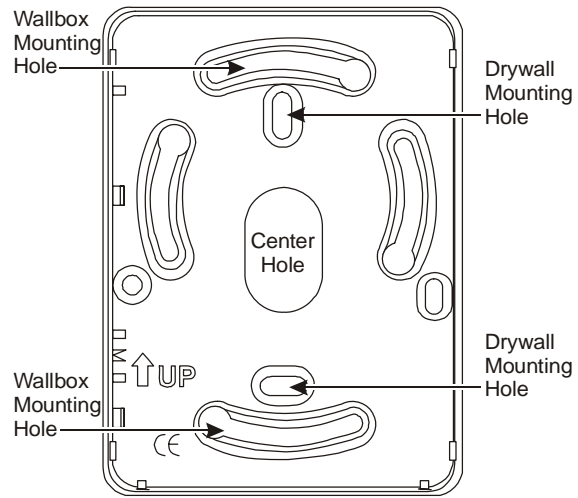
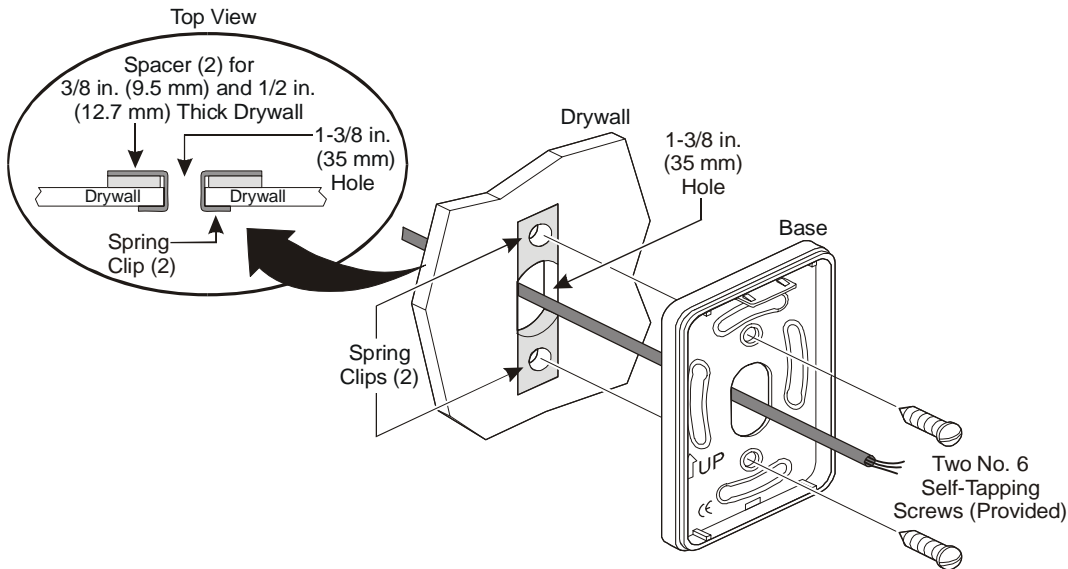
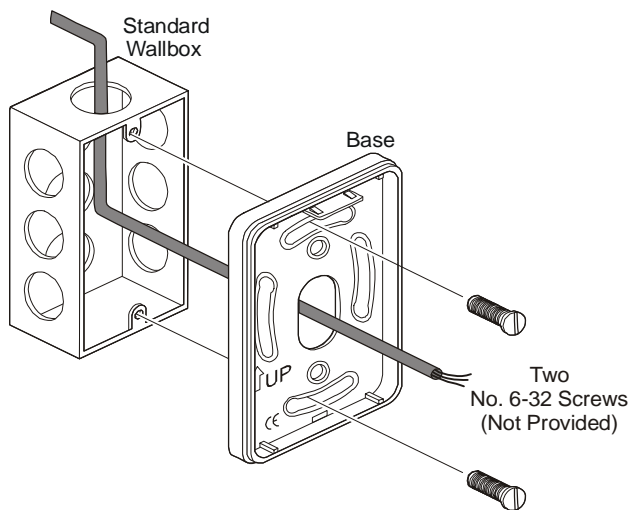

Figure 1: Transmitter Base
Figure 2: Surface Mounting to Drywall
Figure 4: Mounting to a Wallbox
2. Using only the drywall mounting holes indicated in Figure 1, mark the location of the two mounting holes and drill the 1/8 in. holes.
3. Insert the spring clips as shown in Figure 2. (Use the spacers for 3/8 or 1/2 in. drywall.)
5. Center the two holes in the base over the drilled holes, and fasten the base to the drywall using the No. 6 screws provided (Figure 1 and Figure 2).
CAUTION: When mounting to drywall, use the specified holes (see Figure 2) with the provided spring clips. Other mounting may cause the screws to damage the PCB or cause a short circuit.
To mount the transmitter to a standard wallbox, refer to Figure 4 and proceed as follows:
3. Fasten the base to the wallbox with two No. 6-32 screws (not provided) using the curved wallbox mounting holes shown in Figure 1 and Figure 4.